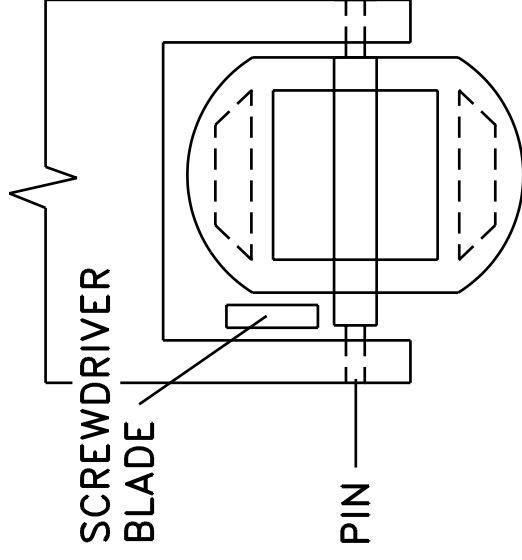

FIGURE 2: REMOVAL OF PADDLEWHEEL PIN
2. Using a small flat-bladed screwdriver, gently pry one of the paddlewheel mounting ears away from the pin (see FIGURE 2).